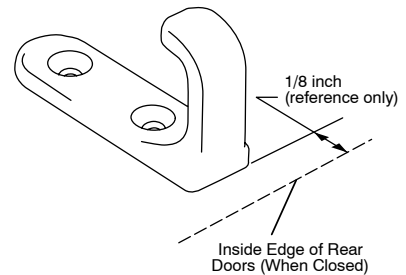
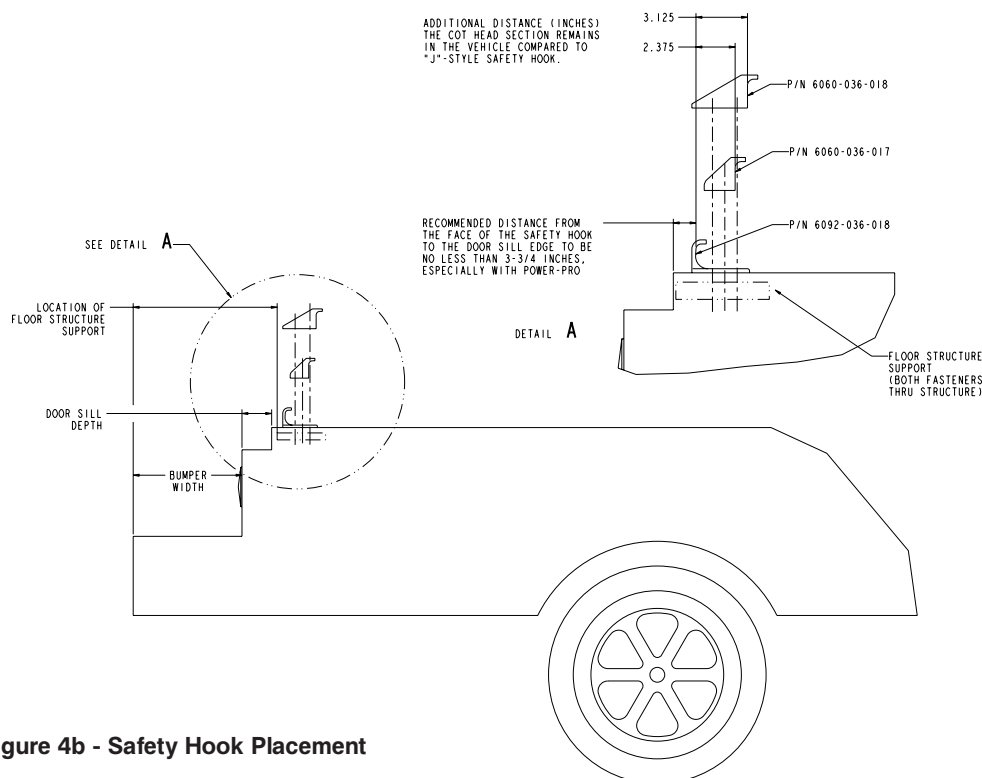

Figure 4a - Safety Hook Placement
Figure 4b - Safety Hook Placement
3. Center the safety hook on the cot safety bar, with the hook facing the front of the vehicle (Figure 4a). For best results, the face of the safety hook which engages the safety bar should be at least 3-3/4" from the leading edge of the door sill (Figure 4b).